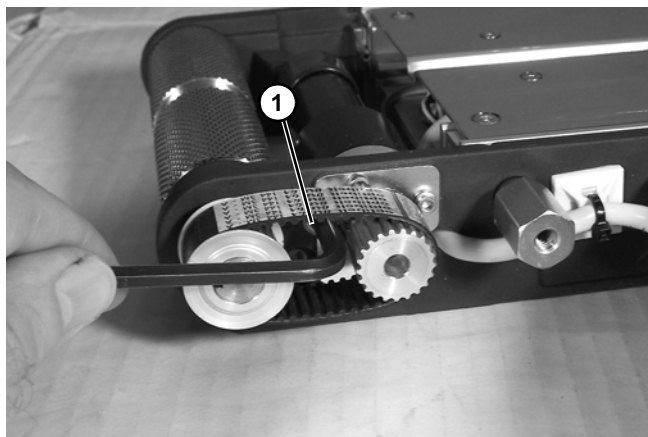

Figure 50
5. Loosen timing belt tension cam (Figure 50, item 1).